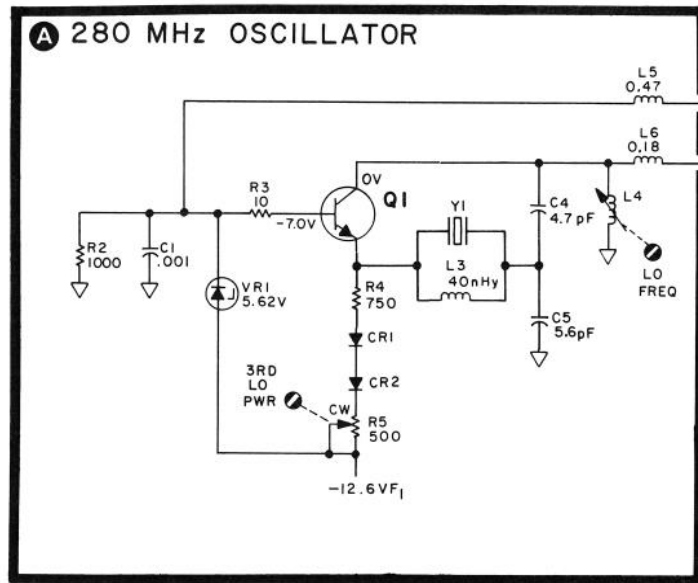

FIGURE 7-8. P/O A9 THIRD CONVERTER AND A10 SECOND IF ASSEMBLIES, SCHEMATIC DIAGRAM (2118A & BELOW)
2118A & Below Replace function block (A) with function block (A) shown in Figure 7-8 (2118A & BELOW) included in this Manual Backdating supplement.